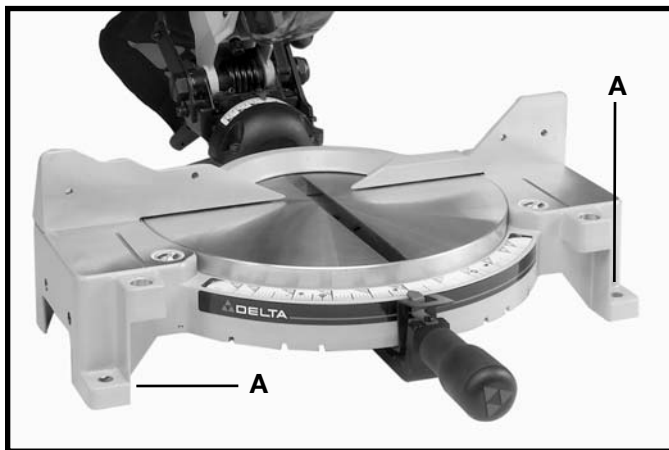

Fig. 14
Before operating this tool, firmly mount it to a sturdy workbench or other supporting surface. Four holes are provided, two of which are shown at (A) Fig. 14, for this purpose.